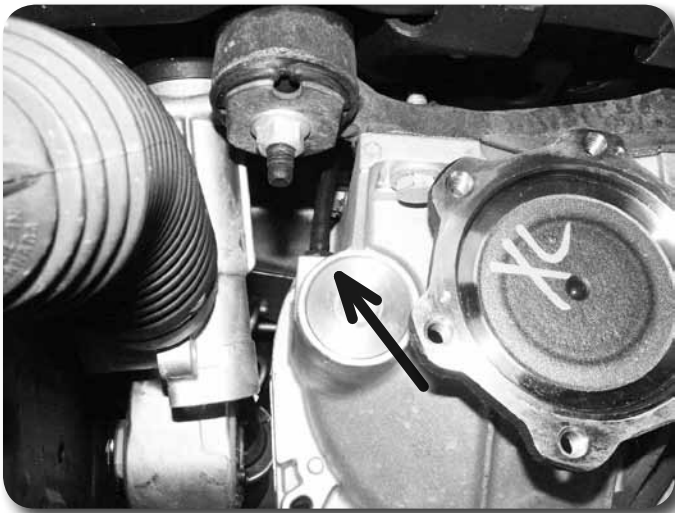

Figure 17
27. Disconnect the differential breather hose Figure 17.